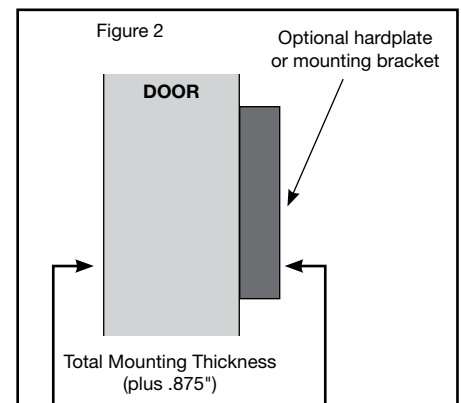

Figure 2
3. Measure total mounting thickness (door thickness + mounting plate) (Figure 2).